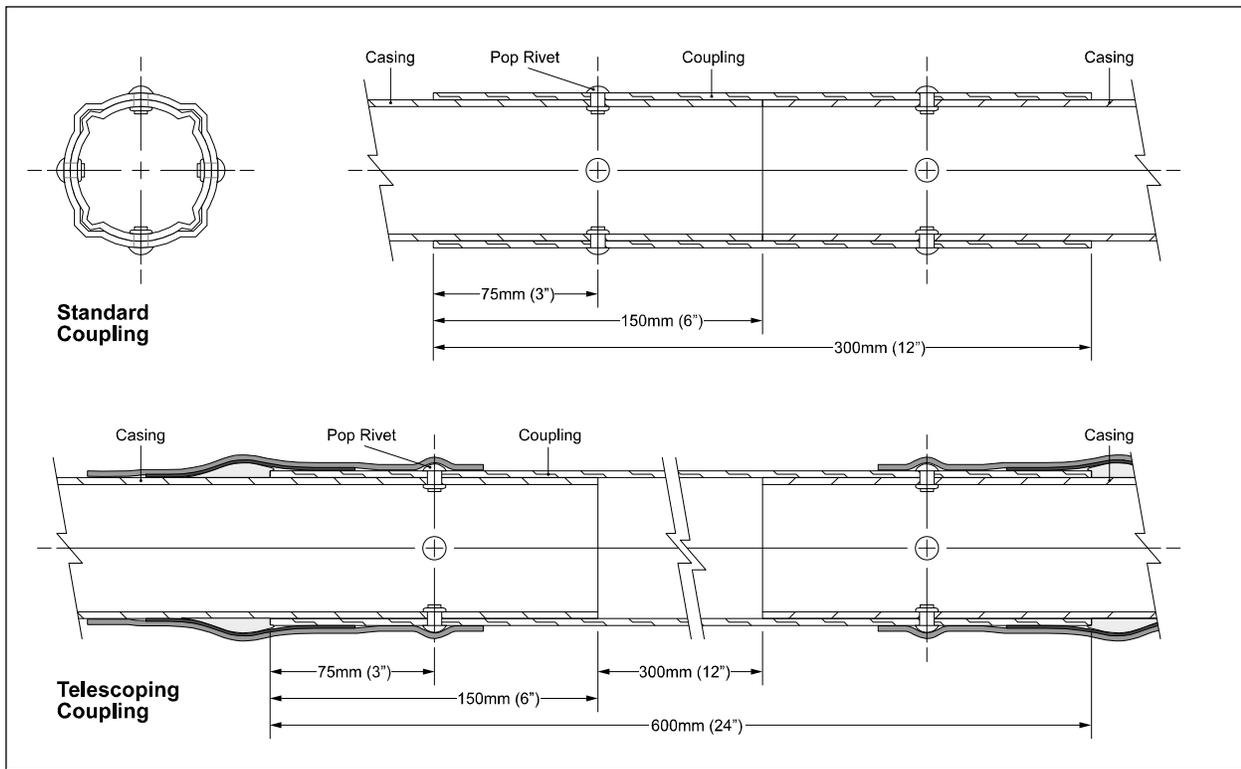

Figure 1. Inclinometer casing and couplings.
In order to save time during the actual installation it is normal to pre-assemble the couplings onto one end of each length of casing. The couplings are attached using four (4) pop rivets located at 45° to the casing grooves (see figure 1). Make sure that the rivets are not near the grooves. The gap between the casing and the couplings is first caulked and then taped, first with electrical tape and then with duct tape. It is good practice to tape over the rivet heads also.
Where telescoping couplings are required, (see figure 1) mark on the casing where the couplings will end so that the requisite gap is created. For example if the coupling is 600mm long and the required gap is 300mm then a mark is made 150mm from the end of each casing and the couplings are then riveted in place with their ends opposite these marks. Note that with telescoping couplings it is better to use aluminum rivets rather than stainless steel. The aluminum rivets are weaker and shear more easily.